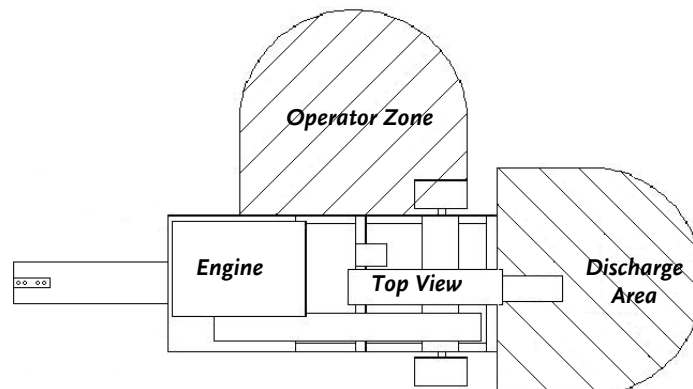

Figure 6
- When viewed from the Chipper Hopper side (Operator Zone, **Figure 6**), the Flywheel turns in a clockwise direction.
- ALWAYS operate the DR 13 HP CHIPPER from the Operator Zone shown in **Figure 6**.
- If the cutting knife strikes a foreign object or if your machine should start making an unusual noise or vibration, immediately stop the engine and wait five (5) minutes for all moving parts to come to a complete stop and cool. After the machine has come to a complete stop proceed as follows:
- ALWAYS stop the engine when leaving the Operating Zone (**Figure 6**) or when moving the machine.